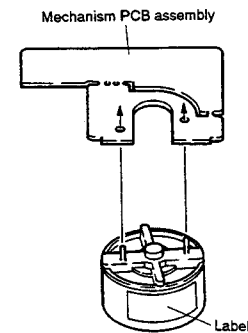

Fig. 2-9
- (2) Solder the terminals of the loading motor to the mechanism PCB assembly. Since the loading motor has polarity, the positional relation between the label of the motor and the mechanism PCB assembly is shown in Fig. 2-9.